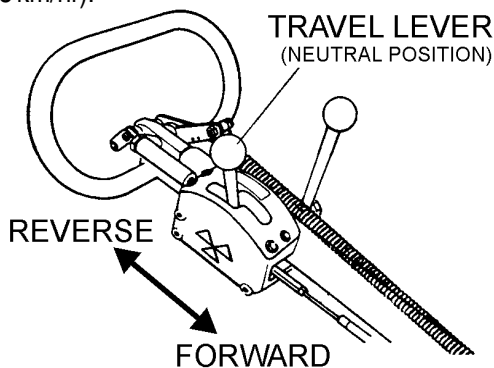

Figure 20. Travel Lever
1. To make the roller move in the forward direction push the travel lever (Figure 20) forward. This roller has a hydraulic variable speed transmission. By moving the travel lever various increments, you can vary the speed from 0 to 1.8 mph (0 to 3 km/hr).
2. To make the roller move in the reverse direction pull the travel lever (Figure 20) backwards.